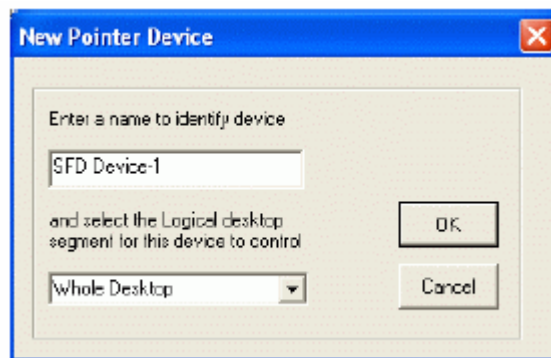

Figure 3
7. The operation area of the touchscreen can be assigned by the “Logical desktop segment” function. Select your preference. Most common choice will be “Whole Desktop” or “Primary Monitor” if you have multiple monitors. See Figure 3